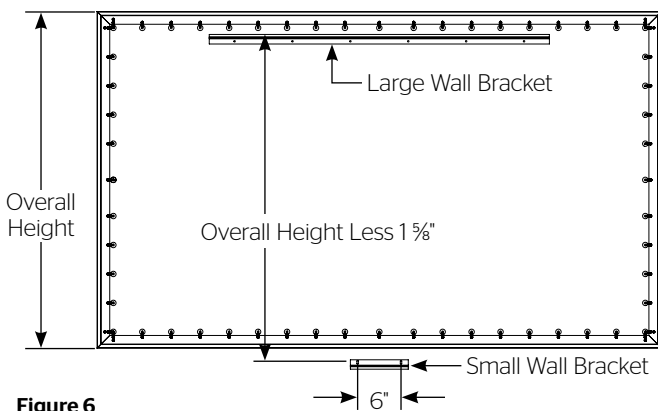

Figure 6
2. To install the lower wall bracket, you must measure the overall height of the screen frame and subtract 1-5/8". Using that dimension, measure down from the top edge of the wall bracket and mark the wall for two screw holes. The holes should be centered within the frame and 6" apart. Refer to Figure 6.